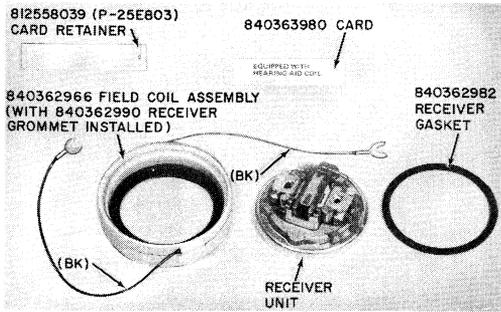

Fig. 11—D-180719 Kit of Parts and Receiver Unit
- (2) Twist and lift off the receiver retainer, receiver unit, and receiver grommet from the receiver cup on the chassis assembly.
- (3) Remove the receiver retainer and grommet from the receiver unit and **discard only the retainer and grommet.**
- (4) From the kit of parts (Fig. 11) install the receiver grommet in the field coil assembly with the lip of the grommet protruding outside the assembly.
- (8) Reassemble the handset.
- (9) Install the card (Fig. 11) which identifies a coil equipped handset in location where the cover above the dial was removed. Place the (clear) card retainer over the card.